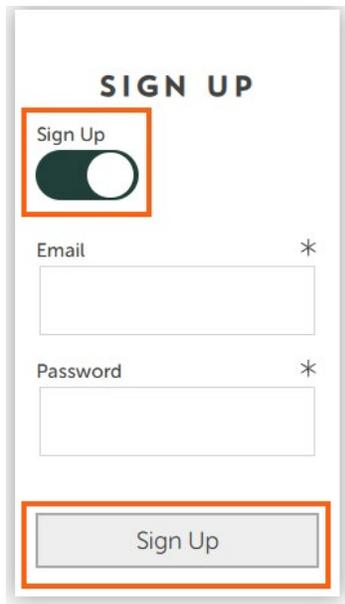

Figure 1: Sign Up toggle and Sign Up button
- b. Toggle the Sign Up button and enter your email and password. Then select the Sign Up button — **see Figure 1.**